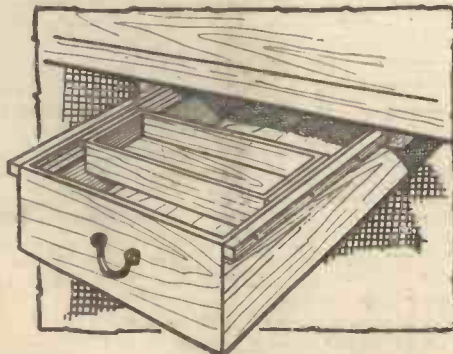

Fig. 3.—The more delicate tools should be kept together in the sliding tray of the tool drawer.
**Item 3.**—The tool-drawer, a "close-up" of which is shown in Fig. 3, is supported on wooden runners which are screwed to the underside of the bench. The sliding tray, shown here, will be found very handy for smaller tools, such as gauges, callipers.